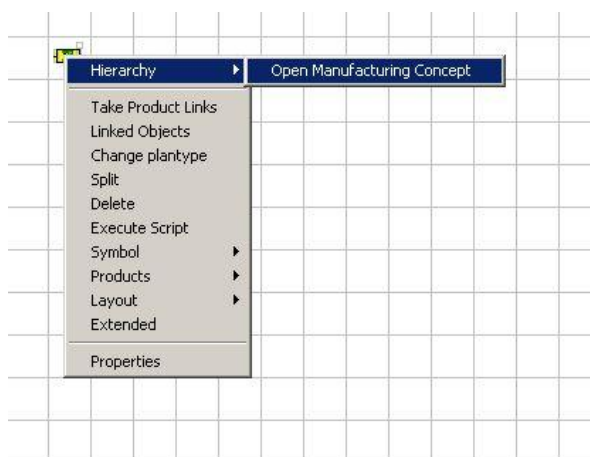

Figure 146: Generating a Manufacturing Concept for a Resource
- 4) Newly created Manufacturing Concepts can be opened using the **Open Manufacturing Concept** function from the context menu. *Please refer to the Figure 146.*